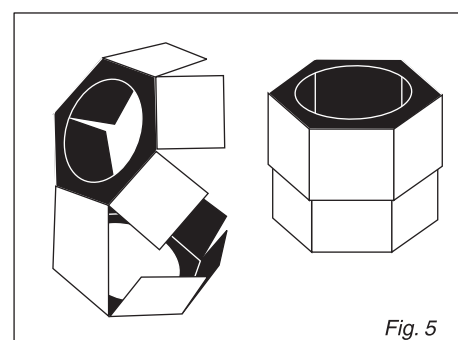

Fig. 5
Step 9: Remove the two circular cutouts from the internal reinforcement 1 of the main tube [C3] and bend all the tabs forwards. Stick the five wholly black tabs with their white rear sides onto the grey glue areas of the other five tabs to give a small hexagonal block (see Fig. 5). It has a black internal surface and a white exterior. Apply black colour to both hexagons at the ends of the block. Do the same with the internal reinforcement 2 of the main tube [C4]. Allow it time to dry.